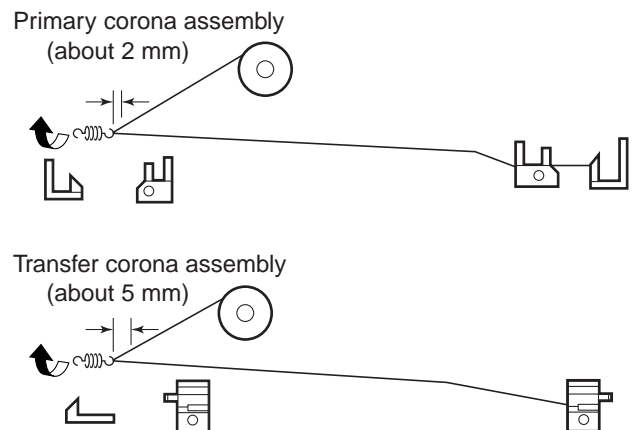

Figure 4-807
- 5) Hook the loop of the corona wire as shown in Figure 4-807, and lead the wire along the V-groove of the height adjusting roll.